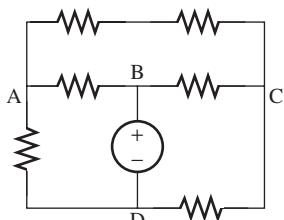

FIGURE P3.29 Circuit for Problem 3.29.
- 3.29 (B)** Which node is the best choice for a reference node in the circuit in Figure P3.29?
3.42 (B) Identify the meshes and mark the mesh currents in Figure P3.29.